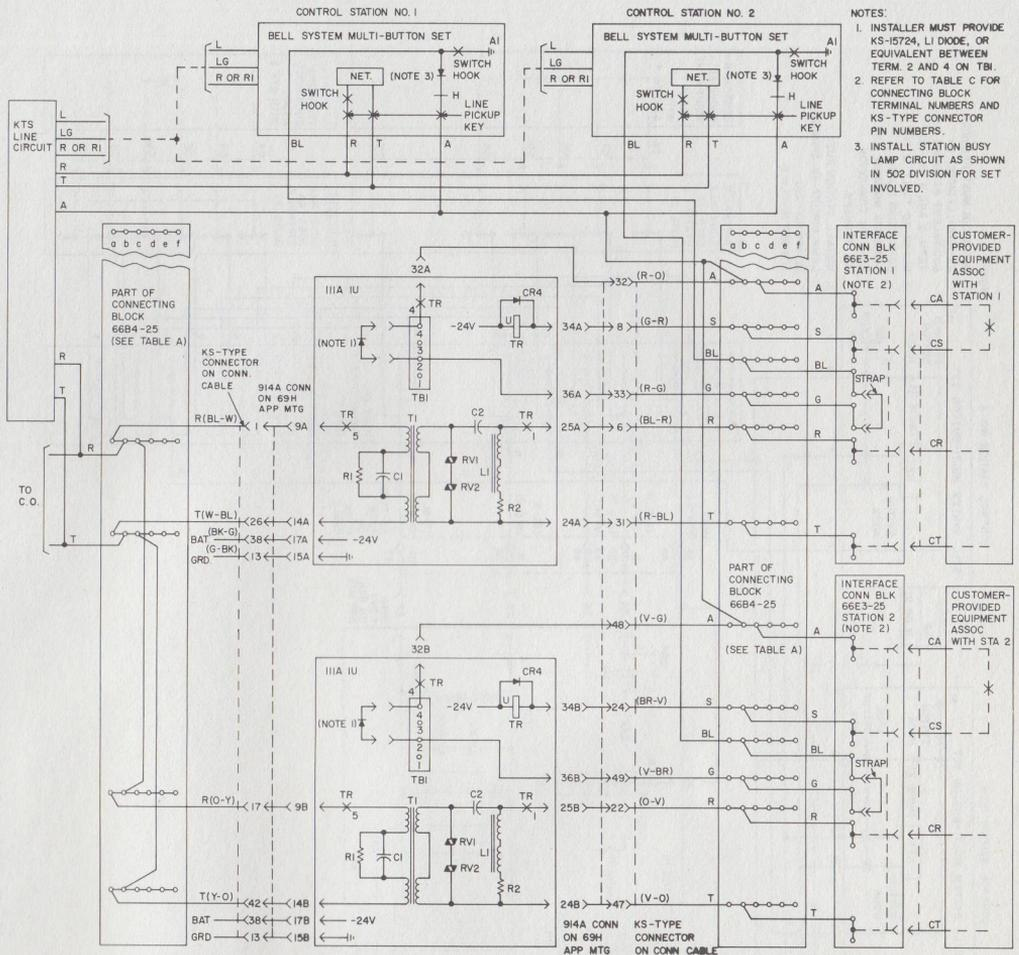

Fig. 8—Simplified Schematic-Voice Connecting Arrangement CEBAX
3.11 Power supply (supplied locally if required) connects to the 66B4-25 connecting block as shown in Fig. 8 and 9. Fuses must be provided locally for the 69H apparatus mounting. Each 111A IU requires 0.047 ampere at 26V dc. Refer to the appropriate section in Division 518 for proper grounding of power plants.
3.19 Install diode between terminals 2 and 4 of TB1 as shown in Fig. 8 or 9 before installing 111A IU in apparatus mounting.
4.01 *Connection—Voice Connecting Arrangement CEBAX* (Fig. 8)
CEBAX (Fig. 8)
6.01 For connecting information using the 69H apparatus mounting, refer to Fig. 8 or 9 and Table A or B.
6.02 The 111A IU is shown schematically in Fig. 8 and 9. The 69H apparatus mounting has provisions for installing two 111A IUs. Terminal designations for the KS-type connector associated with the 66E3-25 interface connecting block are shown in Table C.